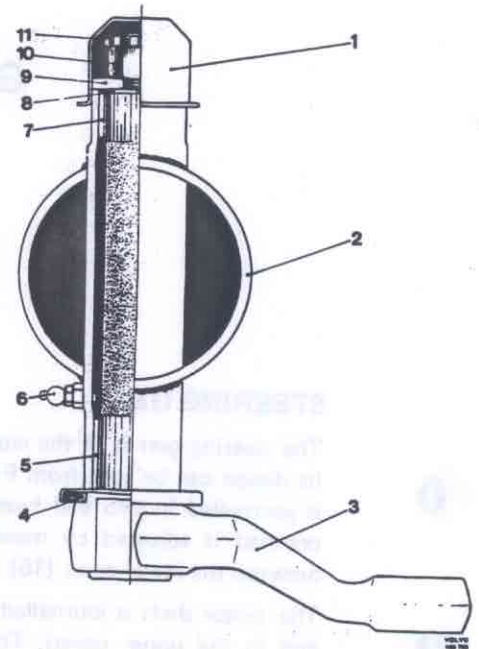

Fig. 64-3. Auxiliary steering arm
The auxiliary steering arm (2) links the tie rod to the upper steering rod. The auxiliary steering arm is journaled in the front tubular member by means of two bushings (5 and 7, Fig. 64-3). Any axial looseness on the auxiliary steering arm can be remedied with the help of shims (8).